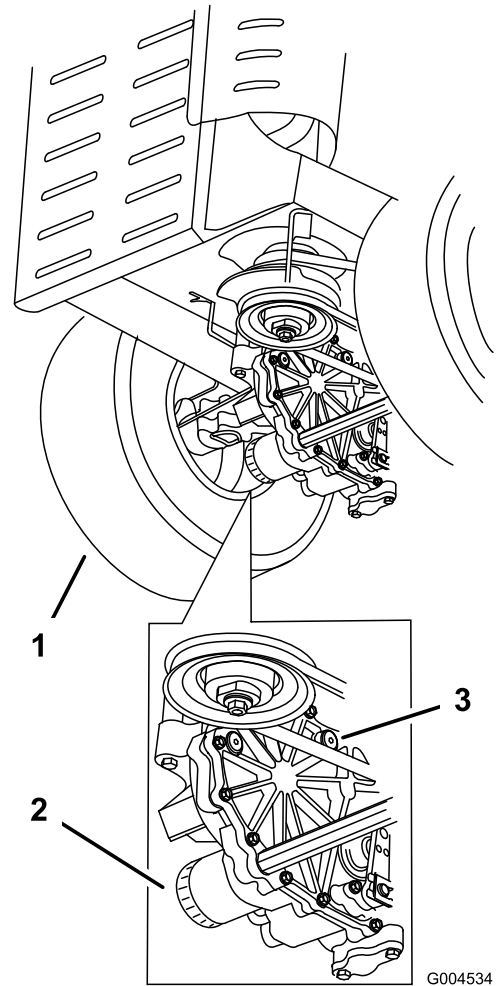

Figure 50
4. Carefully clean the area around the filters. It is important that no dirt or contamination enter the hydraulic system (Figure 50).
5. Unscrew the filters and allow the oil to drain from the drive system (Figure 50).